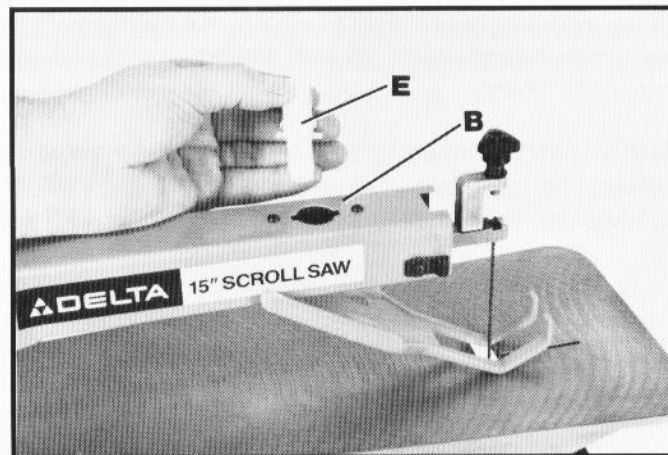

Fig. 7
3. Align ears of plug housing (E) Fig. 7, with slotted hole in upper arm guard (B) and insert plug housing (E) into upper arm guard (B).